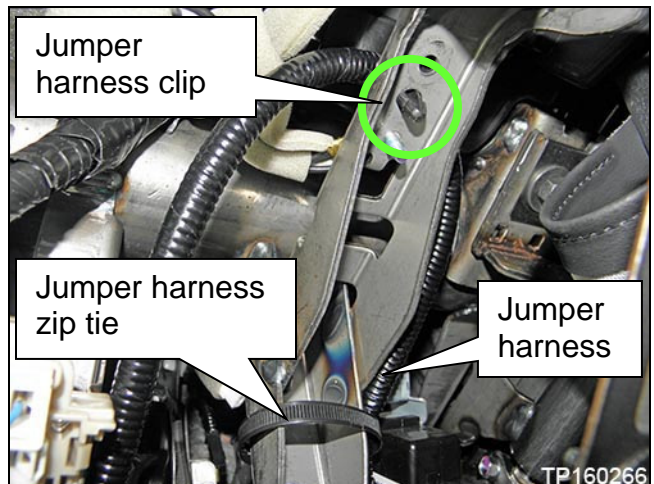

Figure 9
7. Clip the jumper harness to the support bracket (Figure 9).
8. Zip tie the jumper harness to the side of the support bracket (Figure 9).